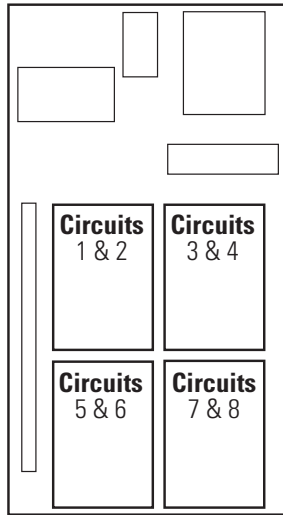

Figure 10: 50 amp transfer switch circuit assignments
2. Connect a Neutral wire for each dimmer circuit to terminals **NN1** and **NN2** on the right side of the transfer switch assembly. See Figure 10, left, to match switch assemblies to loads.
2. Connect a Neutral wire for each lighting load to terminals **LN1** and **LN2** on the left side of the transfer switch assembly. See Figure 10, to match switch assemblies to loads.